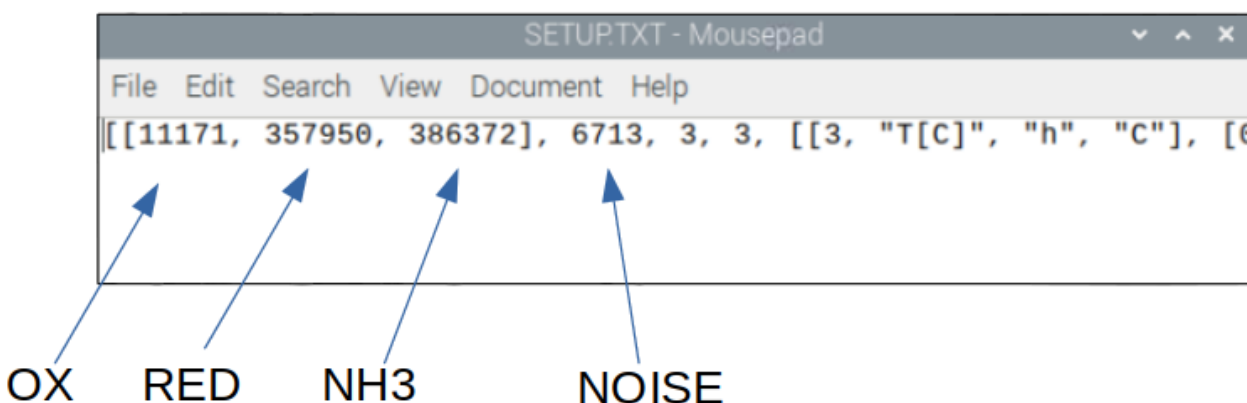

Figure 16: Locations of the calibration values in SETUP.TXT
8. Use a text editor (like Mousepad) to edit the SETUP.TXT file and overwrite the OX, RED and NH3 R0 values in there (see Figure 16), taking care not to change anything else.
6. Use a text editor (like Mousepad) to edit the SETUP.TXT file and overwrite the NOISE value in there (see Figure 16), taking care not to change anything else